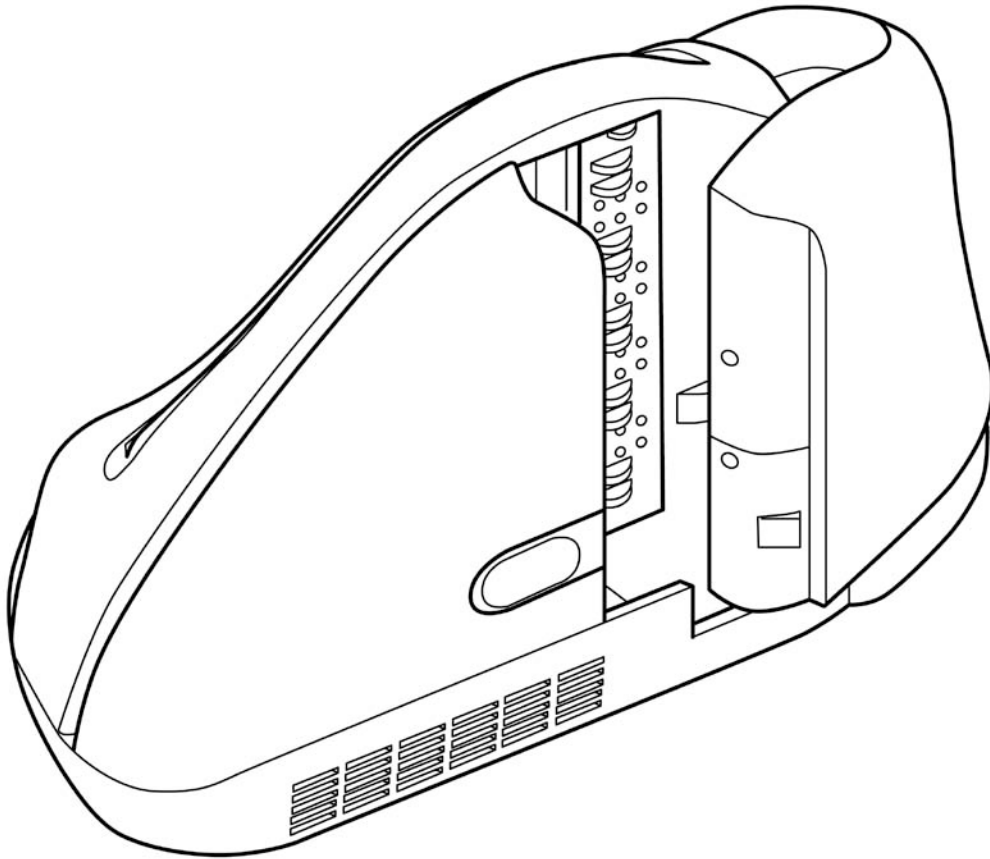

Figure 3-4. Cleaning Check Path and Scan Bars
1. When the check path access door is open, as shown in Figure 3-4, check the path for debris. To clean, turn the unit over and tap gently on the bottom.